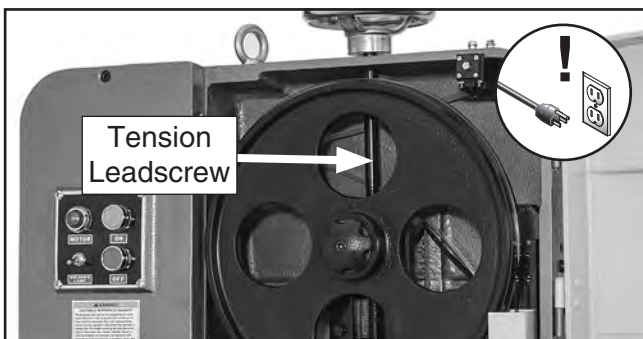

Figure 55. Upper wheel leadscrew lubrication.
2. Rotate the blade tension handwheel clockwise to fully expose the tension leadscrew (see **Figure 55**).